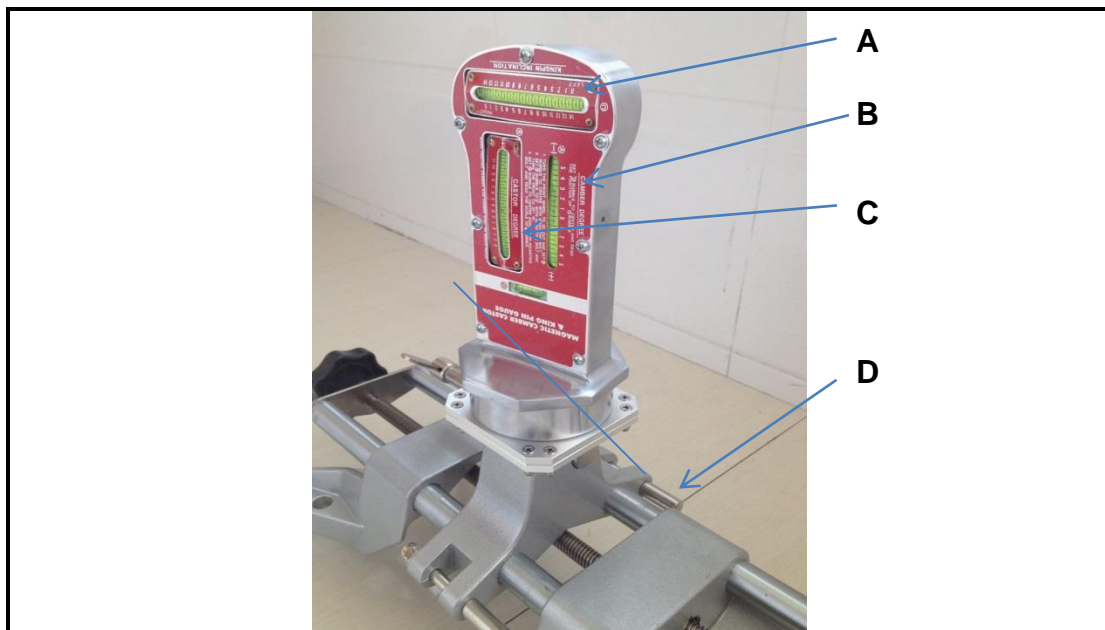

FIGURE 5.1
- 5.1 FIGURE 5.1 below shows wheel alignment equipment commonly used in tyre fitment centres. Use it to answer the questions that follow.
- 5.1.1 Identify the equipment in FIGURE 5.1. (1)
- 5.1.3 What is the purpose of the equipment in FIGURE 5.1? (3)